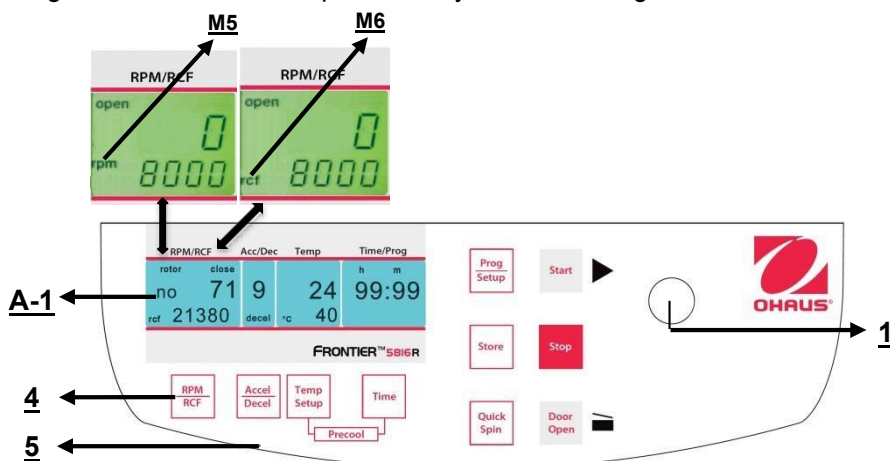

Figure. 19
This pre-selection is activated through the key **"RPM | RCF"** (4) (refer to figure 19 below). By pressing the key once the word **"rpm"** (M5) flashes. By pressing the key twice the pre-selection of the centrifugal forces can be selected. Then the flashing word **"rcf"** (M6) appears. You can set the desired values with the adjusting knob (1). In the display (A-1) the regulated value is shown permanently, before, during and after the run.